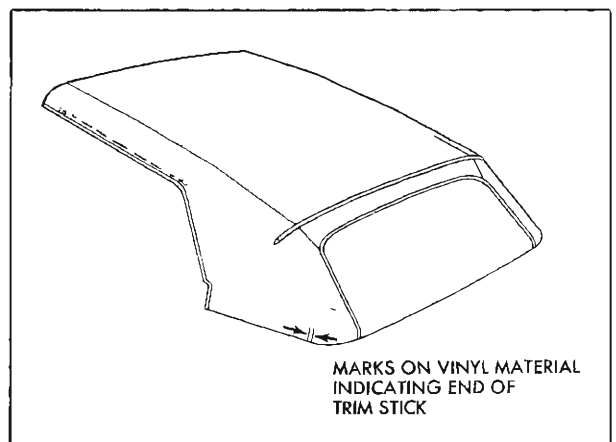

Fig. 21-34 Marking Folding Top Material (New)
12. Using a pencil, mark both ends of rear and rear quarter trim sticks on vinyl surface of top material (Fig. 21-34). Reference marks for trim sticks should be transferred to new top material when step 30 of installation procedure is performed.